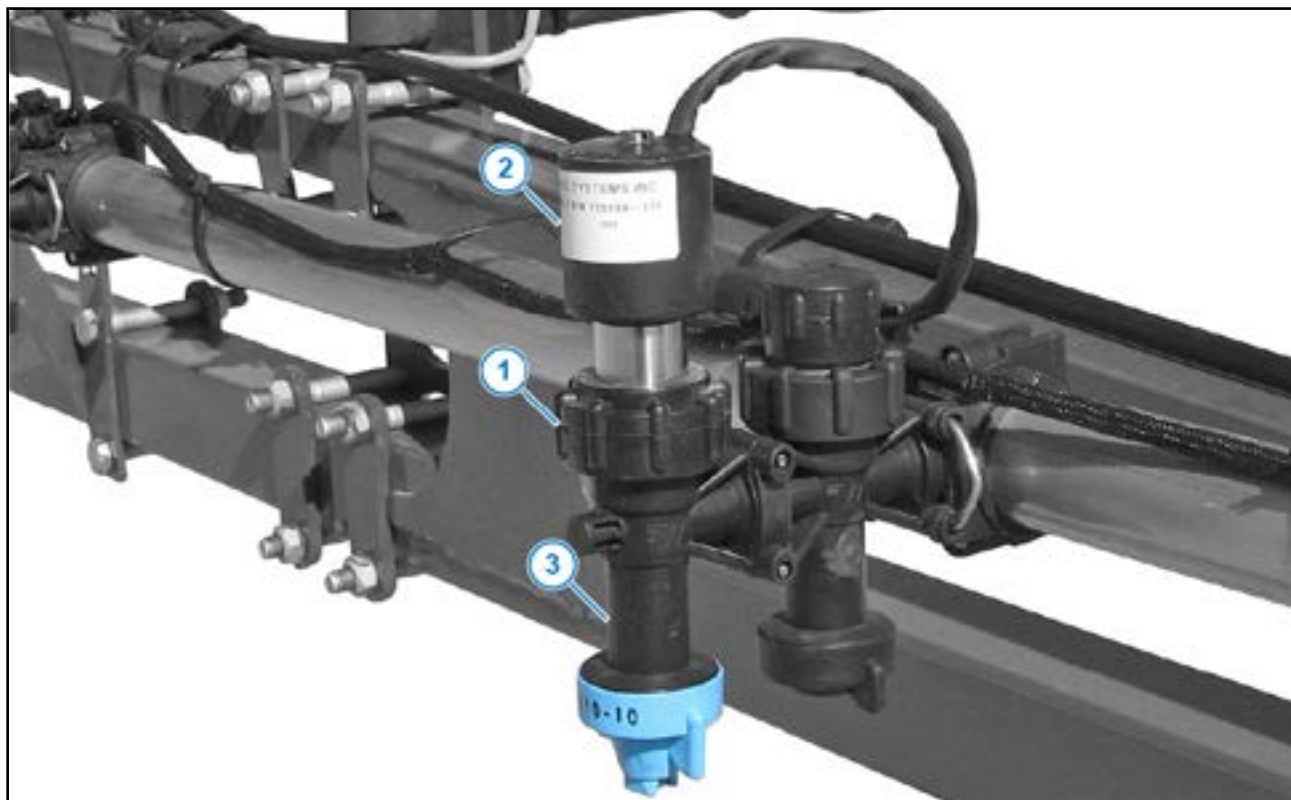

Figure 52: Nozzle Valve Disassembly
1. Unscrew the fly nut (Figure 52, Item 1) counter-clockwise to remove the nozzle valve assembly (Figure 52, Item 2) from the nozzle body (Figure 52, Item 3).